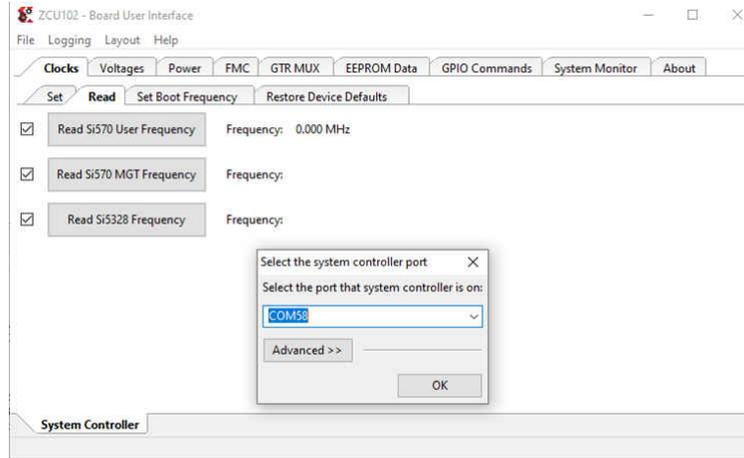

Figure 15-1. ZCU102 Board User Interface
2. Select the appropriate COM Port to enable communication between the onboard MSP430 of the ZCU102 and the PC. This software is required to turn on the FMC_AUX supply of 1.8 V for the FMC bank of FPGA (see Figure 15-1).